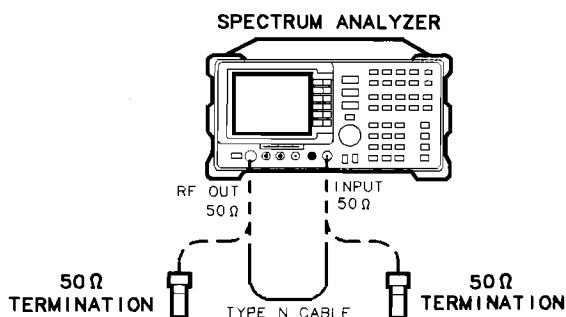

Figure 2-98. Tracking Generator Feedthrough Test Setup
1. Connect the Type N cable between the RF OUT 50 Ω and INPUT 50 Ω connectors on the spectrum analyzer. See Figure 2-98.